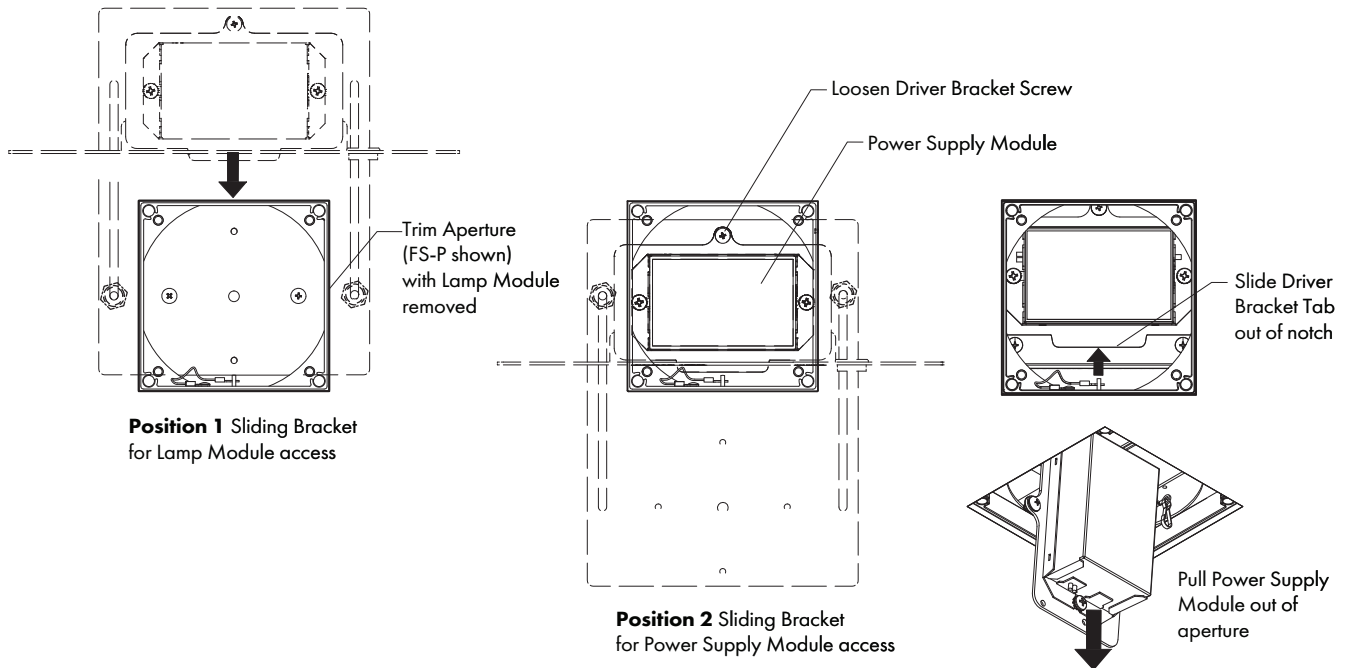

FIG 10.2 Sliding Bracket Positioning and Remove/Replace Power Supply Module
- STEP 3 Move Sliding Bracket along slots to expose Power Supply Module in the aperture (Position 2) - **FIG 10.2.**
- STEP 4 Loosen Driver Bracket Screw, remove Power Supply Module through aperture, and disconnect wire connections - **FIG 10.2.**